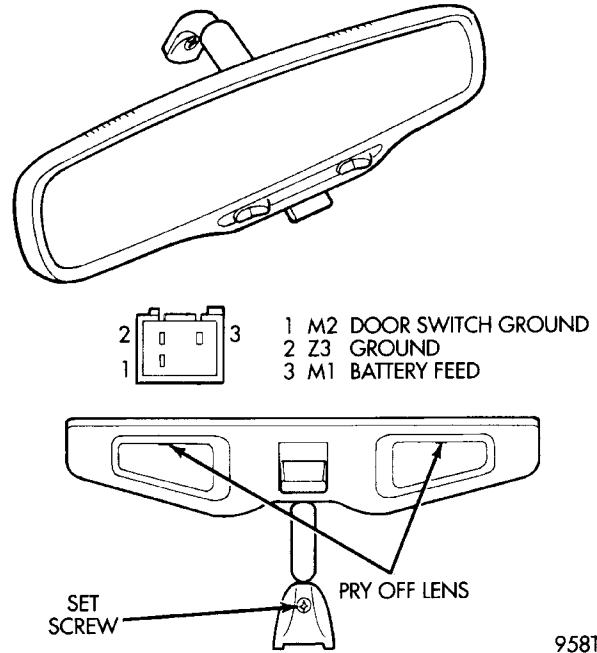

Fig. 8 Mirror/Reading Lamps
- (1) Disconnect wiring connector.
- (2) Loosen mirror set screw (Fig. 8).
- (3) Lift mirror from mounting button.
- (1) Using a small thin blade tool, pry at the center of the lens nearest the mirror to remove lens (Fig. 8).
- (2) Remove cartridge lamp and replace if necessary.